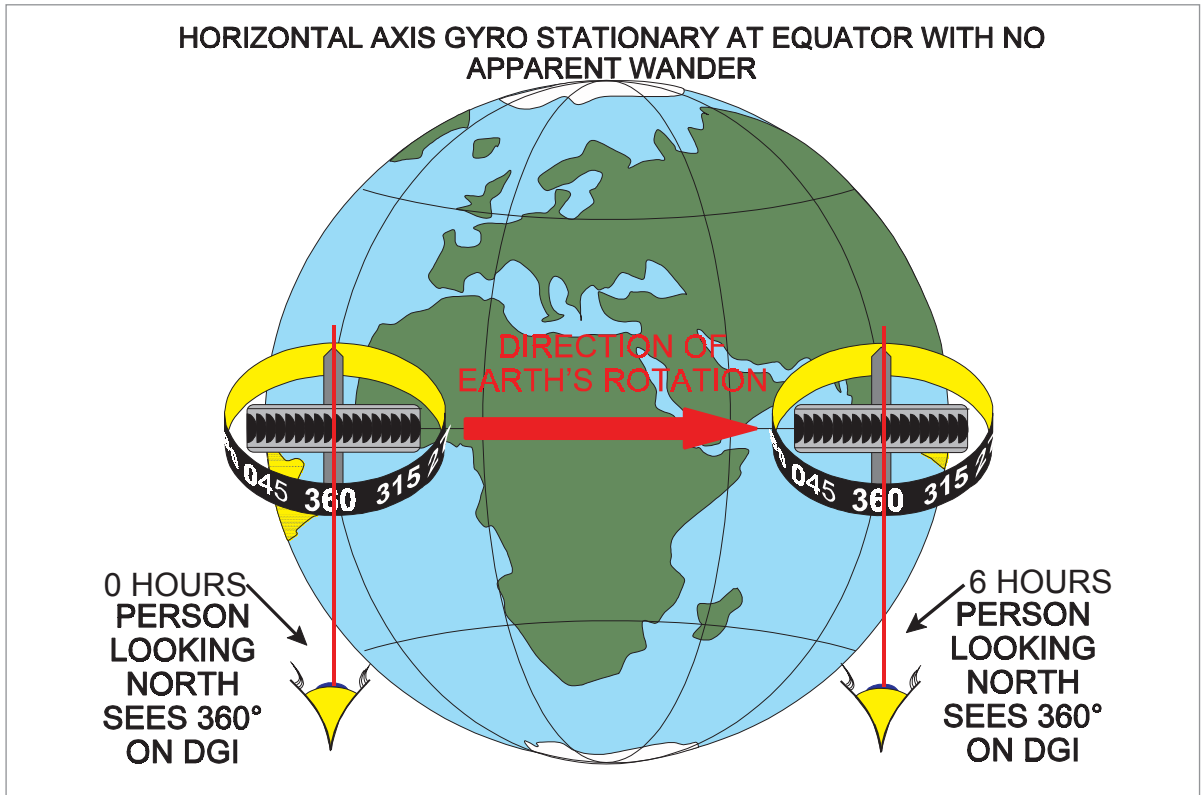

Figure 12.8 Apparent wander at the Equator
*Figure 12.8* shows a gyroscope set up on the ground at the **equator** with the axis horizontal and aligned north/south. In 24 hours, the observer and gyro will move with the earth once round the earth's axis of rotation. There is no change in the direction of the rotor axis relative to the meridian, so there is **zero apparent drift**. The **apparent drift rate** due to the earth's rotation is therefore a **function of latitude**, being maximum at the pole and zero at the equator.